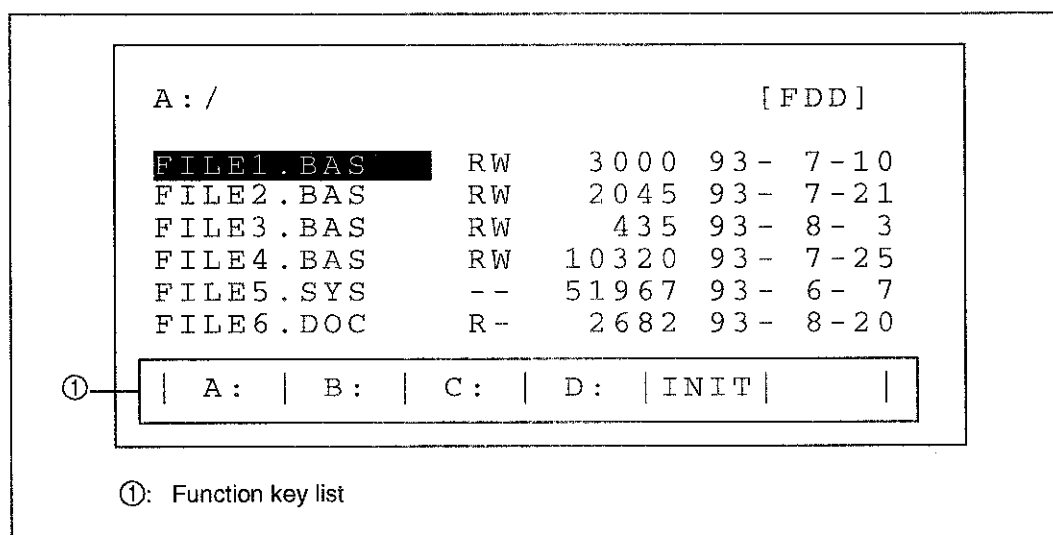
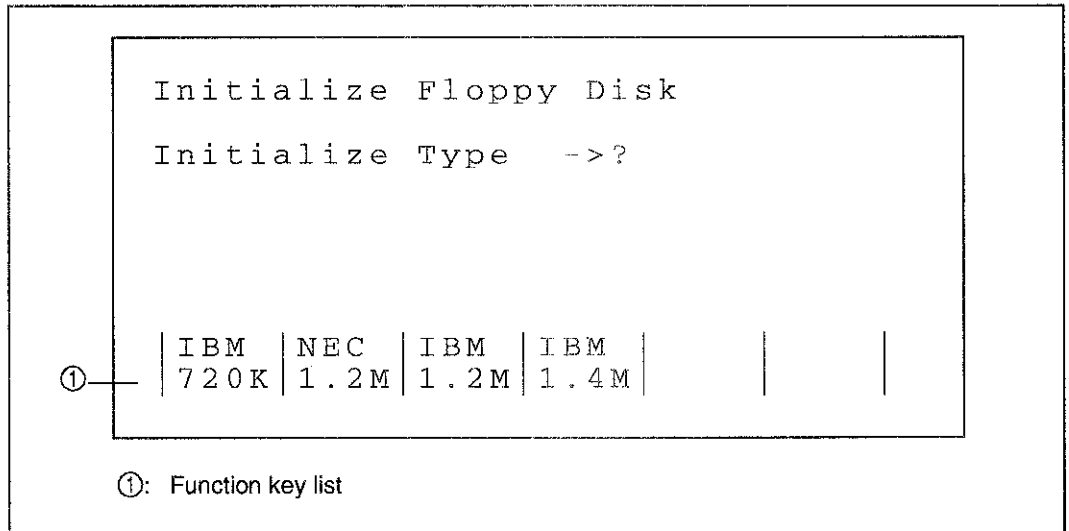

Figure 4-36 DRIV Display Screen
Figure 4-37 INIT Display Screen
(8) DRIV (drive operation) screen
Pressing the DRIV (K6) key in the FILE mode causes a screen like that shown in Figure 4-36 to appear. (For details, see (6) in sub-section 4.1.3 "FILE Mode".)
①: The function key list indicates the function keys available by DRIV (drive operation).
(9) INIT (floppy disk initialization) screen
Pressing the INIT (K5: floppy disk initialization) key in the DRIV mode (see Figure 4-36) causes a screen like that shown in Figure 4-37 to appear. (For details, see (7) in subsection 4.1.3 "FILE Mode".)